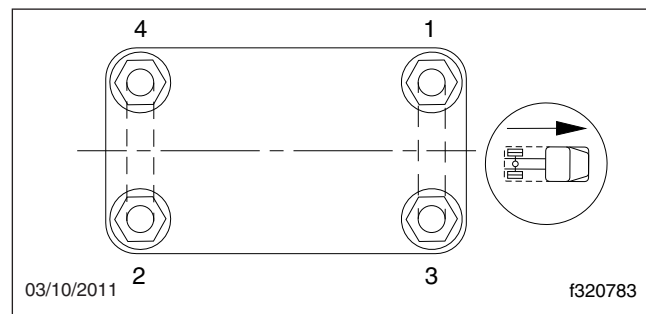

Fig. 17, Tightening Pattern for U-Bolt High Nuts
* Tighten in a diagonal pattern as shown in Fig. 17.